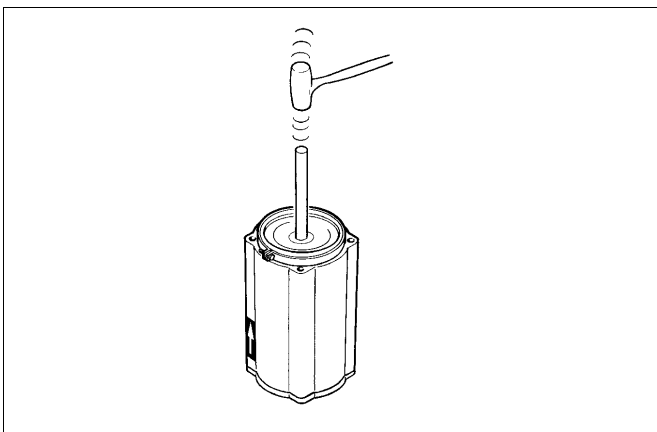

Fig. 19 Placing the piston in the cylinder
- ❑ Hammer or press the piston into the cylinder through the tie ring. Note the indicator arrow direction. See Fig. 19.
- ❑ Install new cylinder base O-rings (19). **Sizes 8 and 10:** ensure that the protection bushing (12A) is in place. Replace cylinder with piston.
- ❑ Apply sealant, e.g. Loctite 225, to the bearing unit screw (29) thread and tighten the screw as in Table 1 before mounting onto cylinder base.